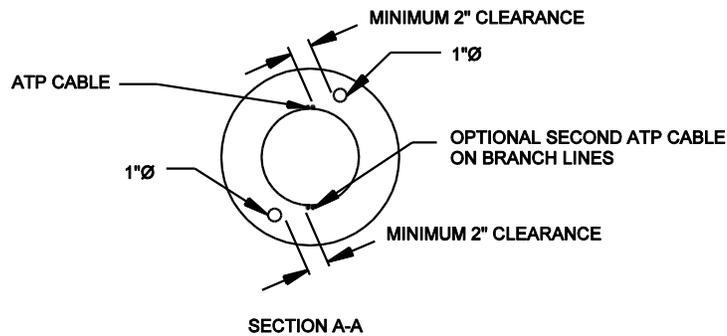

Figure 33
1. Drill two 1" diameter holes through the jacket **in the wind-down portion of only one** of the end seals. It does not matter which of the 2 end seals is drilled (see Figure 33).